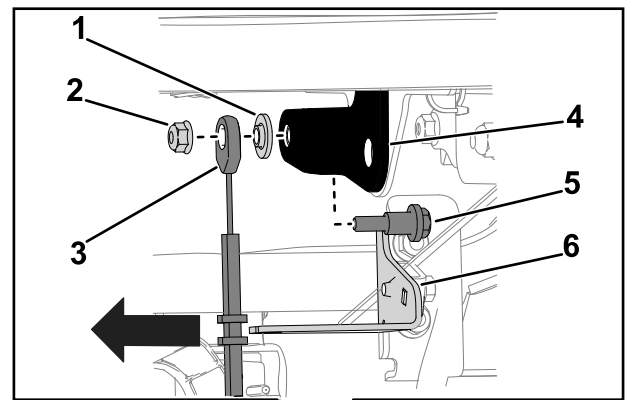

Figure 4
4. Remove the flange nut (1/4 inch) and shoulder bolt (1/4 x 1 inch) securing the hydrostatic drive cable to the speed selector. Retain the stepped washer (Figure 4).
5. Remove the hydrostatic drive cable from the speed cable bracket and rear cover (Figure 4).